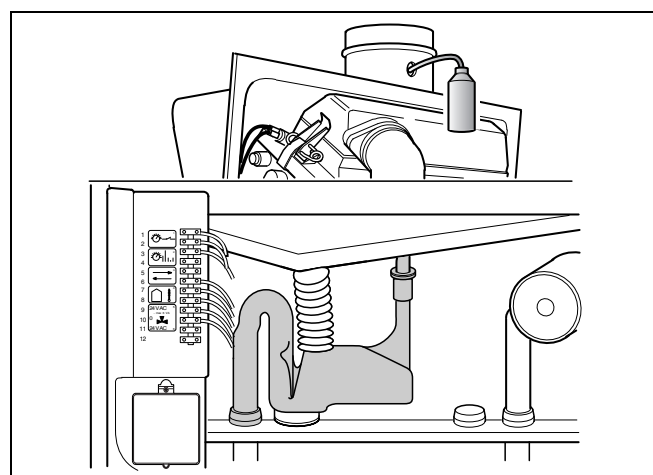

fig. 51 Checking the operation of the condensate water bypass
- Remove and clean the syphon (fig. 51). Take care that the syphon cap is screwed on correctly.
- Inject water (e.g. using a spray bottle) into the left-hand flue gas measuring point (fig. 51) and check that the condensate water bypass is not obstructed.